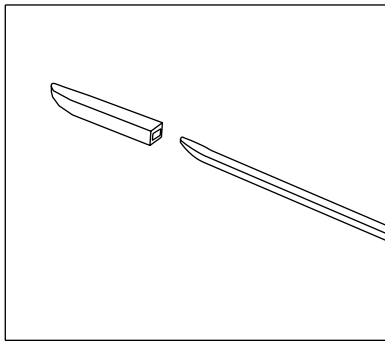

Figure 1-5
- Tire Tool Guard - This rubber grip is fitted on the Tire Tool to protect the rim from being damaged by the Tire Tool (shown in figure 1-5)